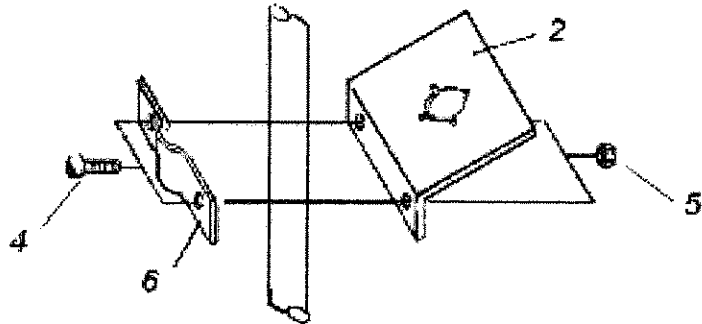

Figure 2
- C. To mount to shift lever, use Bracket (2), Clamp Plate (6) and Round Head Machine Screws (4) and Locknuts (5). See Fig. 2.